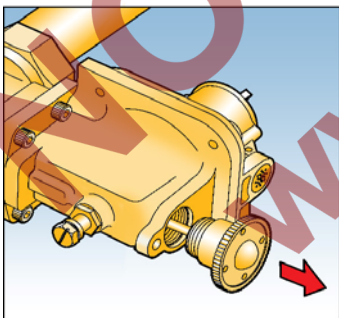

Fig. 4
4. Unscrew OPSS reset spindle end cap and firmly pull, then release reset spindle end cap gently. See Fig. 4.